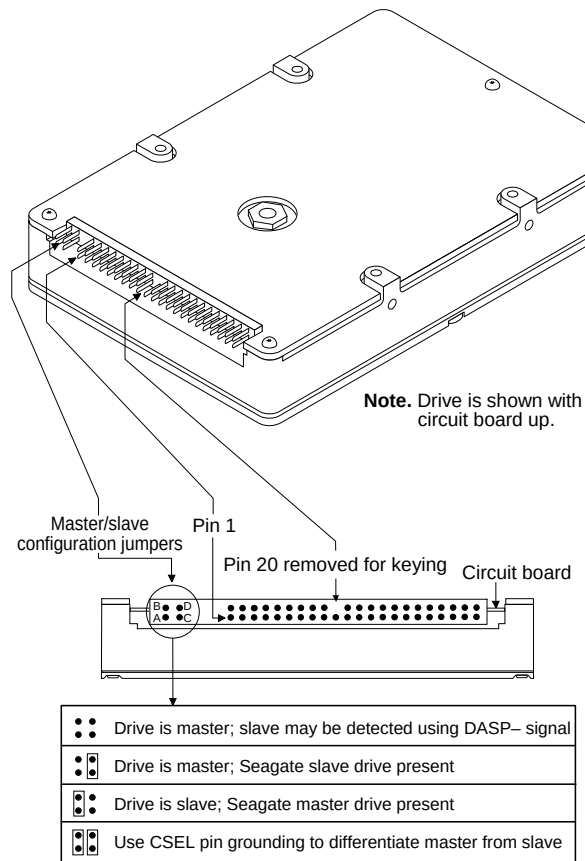

Figure 1. ATA interface connector and master/slave configuration jumpers
2. **Install master/slave jumpers.** In a two-drive system, you need to designate one drive as the master, or drive 0, and the other drive as the slave, or drive 1. To do this, install the master/slave jumpers as shown in Figure 1. In a one-drive system, configure the drive as a master (no jumpers installed).
Marathon 810 for cable select, install both master/slave jumpers, as shown in Figure 1 on page 4.
- 4. Connect the 44-pin interface/power cable.** Match pin 1 of the cable to pin 1 of the interface connectors on the drive and on the computer. Pin 1 is usually denoted by a stripe along one edge of the cable. The location of pin 1 on the drive interface connector is shown in Figure 1 on page 4. The cable should be no longer than 18 inches (0.457 meters).
- **Check all cables.** Make sure that all cables are securely connected. Printed circuit and ribbon cables are quite fragile. Check to see that they are not crimped or damaged. Make sure that pin 1 of the interface cable is connected to pin 1 of the interface connector on the drive and on the computer. Most ribbon cables have a stripe down one side to designate pin 1. The location of pin 1 on the drive interface connector is shown in Figure 1 on page 4.